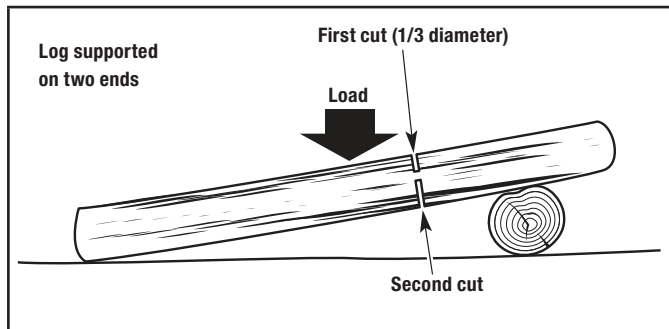

Figure 17
- 1b. If the log is supported on two ends (Fig. 17), make the first cut from above (overbucking). Refer to Overbucking.